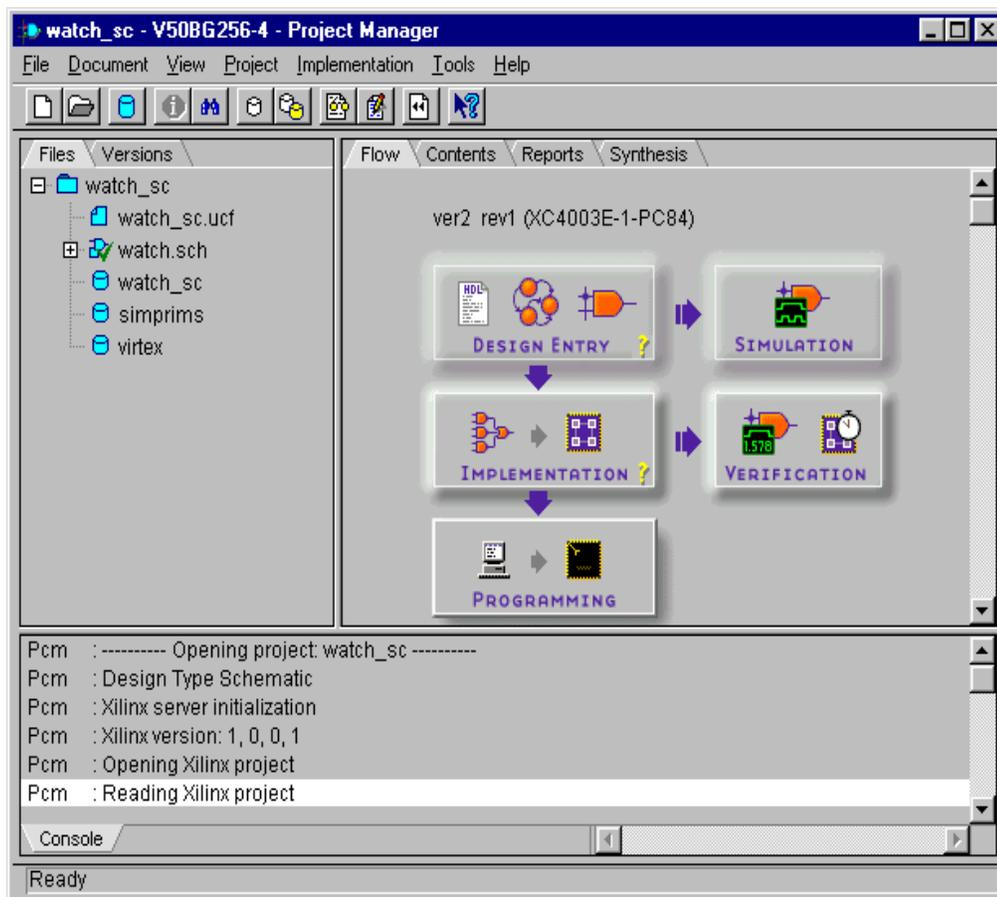

Figure 2. The Foundation Project Manager.
- 4) The **WATCH** project has now been created, and the “**Foundation Project Manager**” should look like Figure 2.